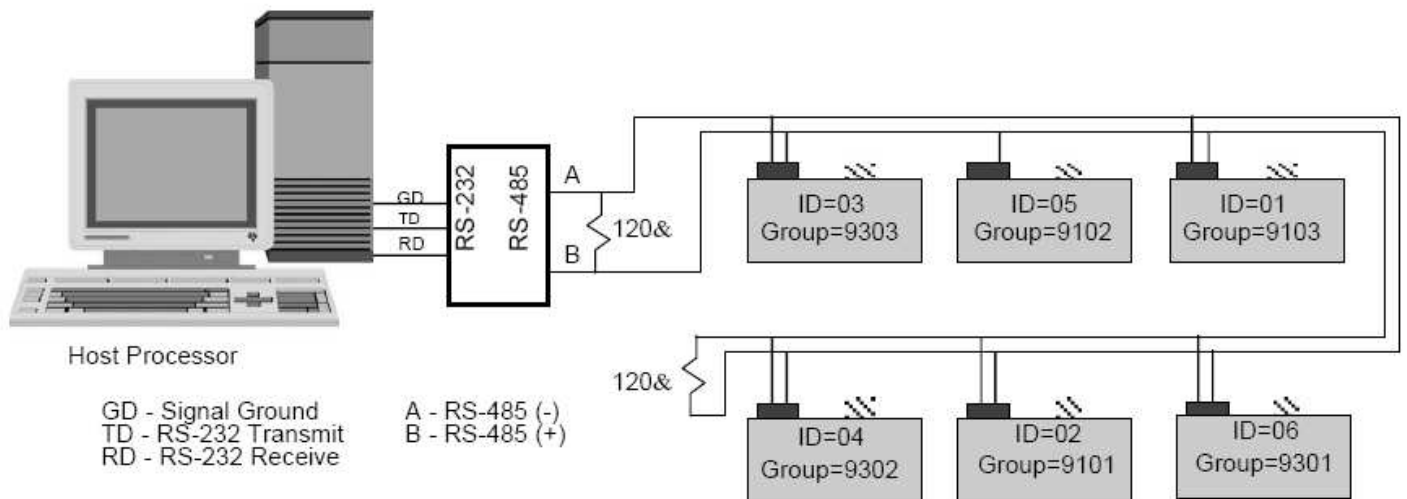

Figure 4.13—HPB RS-485 Multidrop Network
An HPB multidrop network connection of six units is shown in Figure 4.13. In this network, the device IDs are not in order from one end of the network to the other. Looking at all the units on the bus, the device IDs are sequential beginning with ID=01 and without duplication. This is an important setup condition if global commands (\*99) are desired.
**Assign Group Numbers:** Once the device IDs are set the group IDs can be assigned. Each unit in the same group must have a sequential sub-address - beginning with 01. The sub-address tells each unit what order it should respond in a group addressed command. To set the group (91) and sub-address (01) for device ID=02, send the following commands: \*02WE, \*02ID=9101, \*02WE, \*02SP=ALL. Now when a command is sent to group 91, device ID=02 will be the first one to reply. In Figure 4.13, there are two address groups, 91 and 93; each have 3 HPB units assigned.